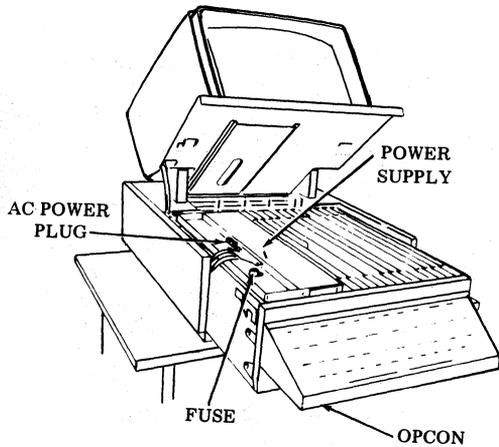

Fig. 3—KD or KDP Power Supply Placement
- 2.01 Install the power supply in a working set or station (Fig. 3 through 6).